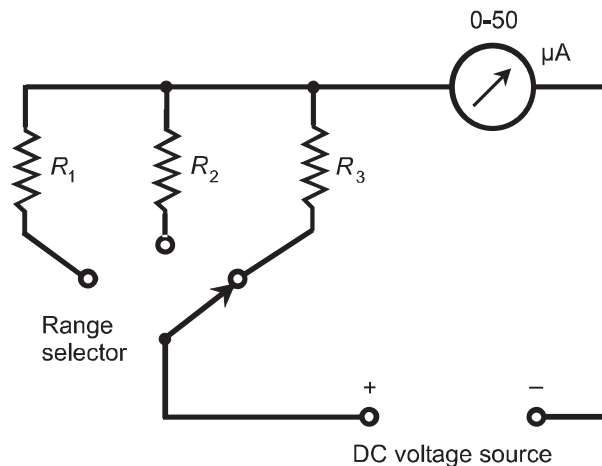

Fig. Exam-4. Illustration for Final Exam Questions 30 through 32.
30. What sort of device is illustrated by Fig. Exam-4?
31. Suppose a 10-V battery is connected to the terminals in Fig. Exam-4 marked "DC voltage source." Suppose the microammeter is deflected to full scale by this voltage ($50\ \mu\text{A}$). What is the value of R_3 , through which current flows?
32. Suppose a source of 0.05 V AC is connected to the terminals in Fig. Exam-4 marked “DC voltage source.” What is the meter indication?